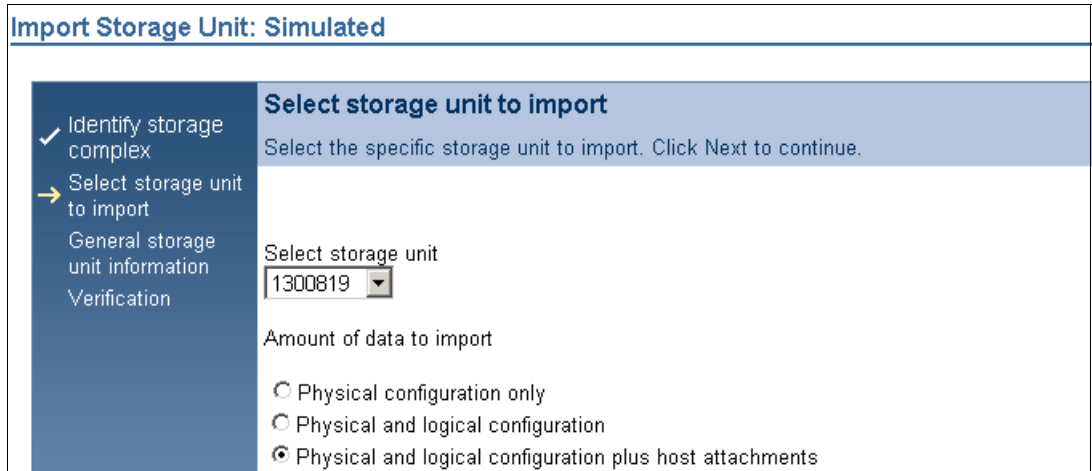

Figure 12-6 Importing the Storage Unit: Selecting the Storage Unit
2. Once you identify the SMC IP address, you will then be prompted to select which DS6000 Storage Unit you wish to import, as shown in Figure 12-6. You will also need to choose how much of the configuration you wish to import. Unless you have a specific reason not to, select the option to import the **Physical and logical configuration plus host attachments**.